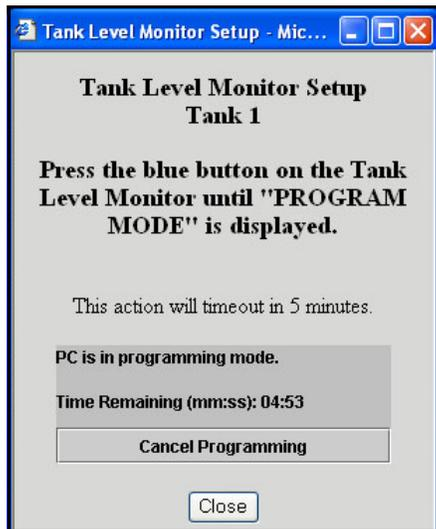

FIG. 59 Tank Level Monitor Setup
1. In the Action column of the tank record you want to program, click **Program**. The Tank Level Monitor setup timeout notice appears. See FIG. 59.